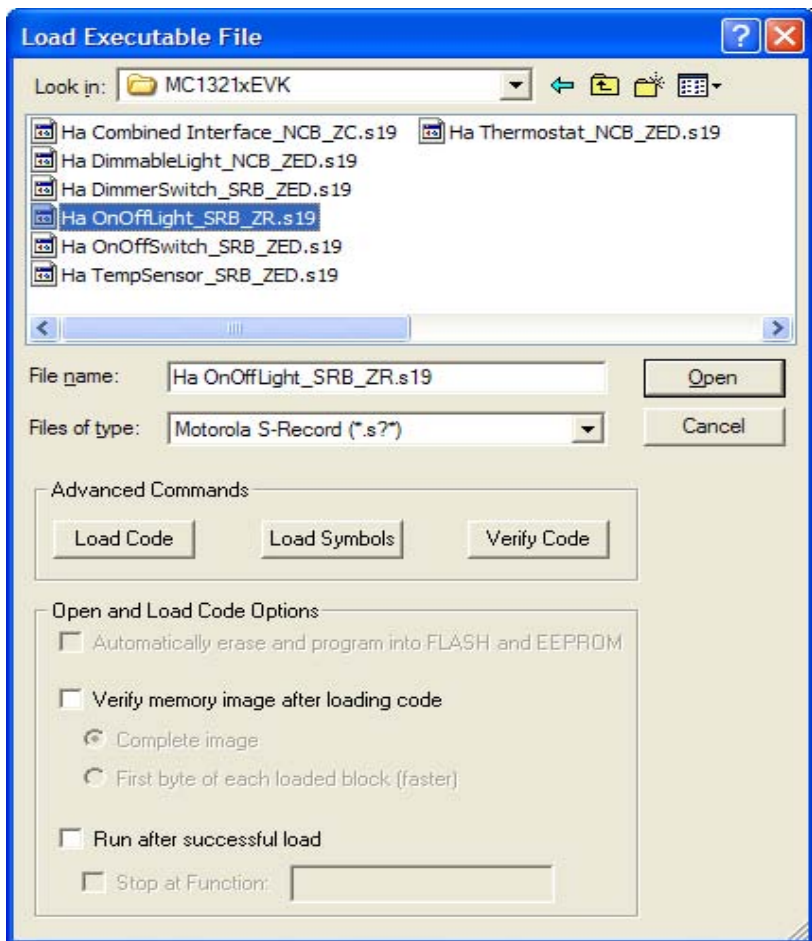

Figure 24. Open *.s19 file
7. As shown in Figure 24, ensure that the Ha OnOffLight_SRB_ZR.s19 is highlighted and click on the Open button.